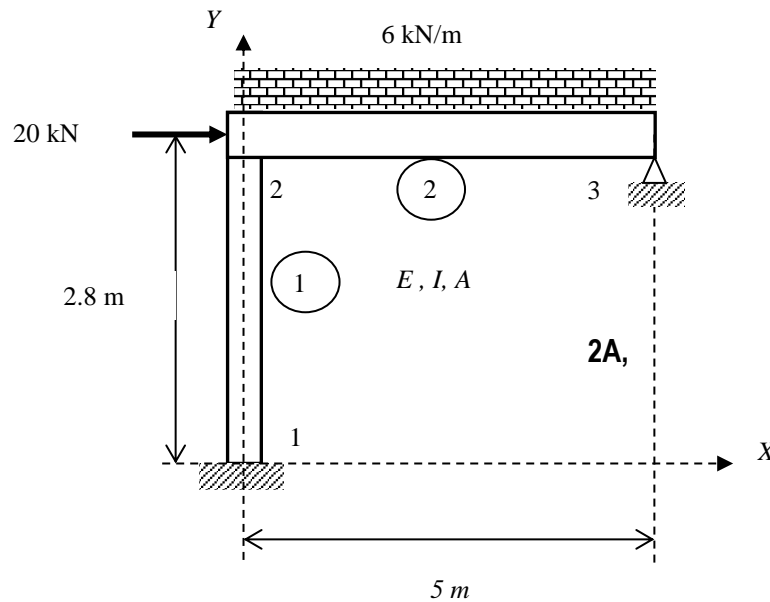

Figure 7c
- (c) **Figure 7c** shows a frame structure labeled as nodes 1, 2 and 3, subjected to a nodal forces of $P = 20 \text{ kN}$ at node 2 and uniformly distributed load of 6 kN/m . The frame is fixed at node 1 and pinned at node 3. Given the value of $E = 207 \text{ GPa}$, $I = 3 \times 10^{-5} \text{ m}^4$ and $A = 0.005 \text{ m}^2$.